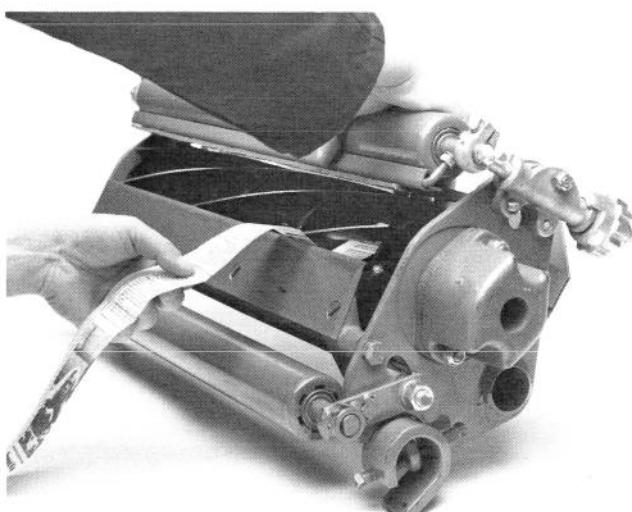

Figure 3
3. After the adjustment is accomplished, check to see if reel can pinch paper when inserted from the front and cut paper when inserted at a right angle (Fig. 3). It should be possible to cut paper with minimum contact between the bedknife and the reel blades. Should excessive reel drag be evident (more than 7 inch pounds [0.8 N·m]) it will be necessary to either back lap or regrind the cutting unit to achieve the sharp edges needed for precision cutting (see Toro reel sharpening manual, Form No. 80-300PT).